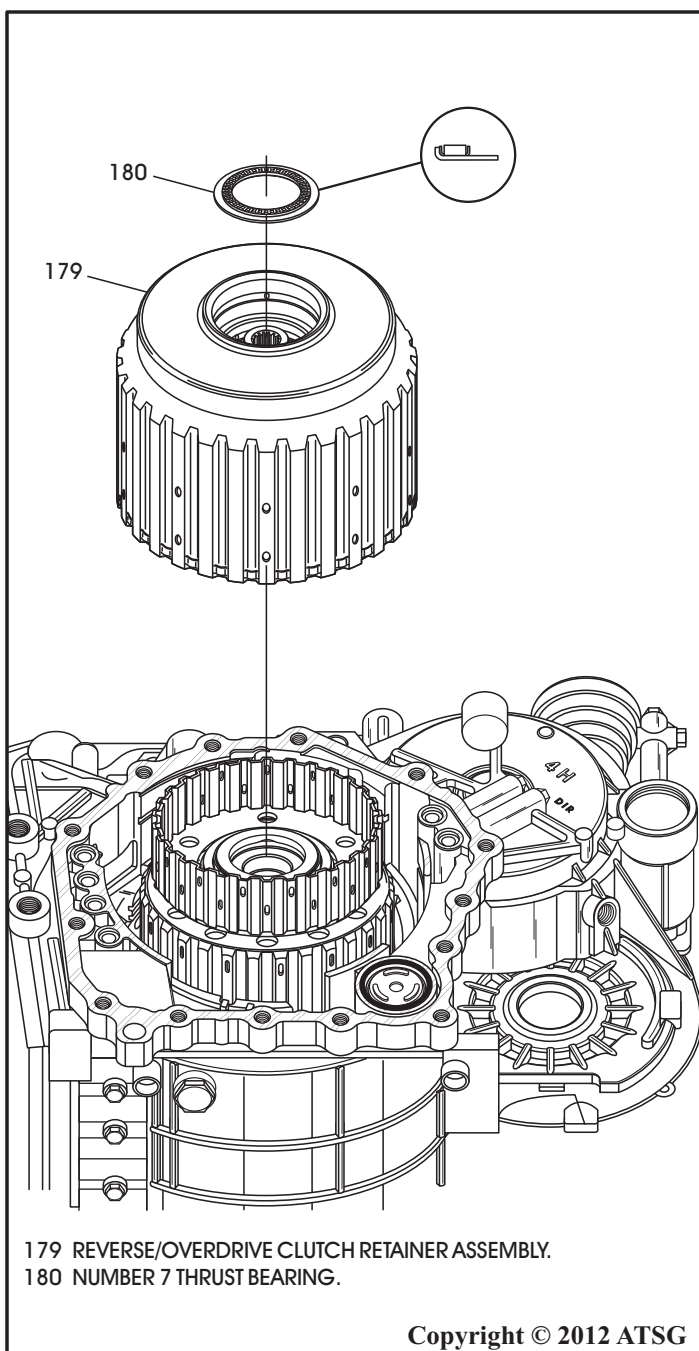

Figure 263
50. Install the reverse/overdrive clutch housing, as shown in Figure 263, by rotating back and forth until all overdrive clutches are engaged on the hub and all reverse clutches are engaged on the sun shell, and the housing is fully seated.
51. Install number 7 thrust bearing in the direction shown in Figure 263.